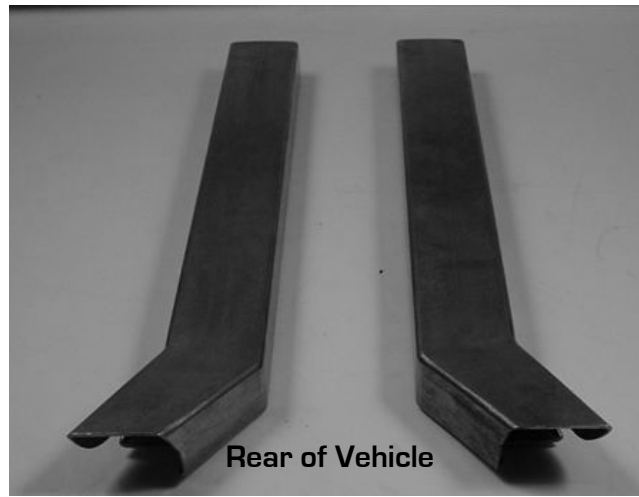

Figure 2
8. The subframe connectors are not symmetrical; they are labeled driver side and passenger side for your convenience. The angled portion of the subframe connector should be positioned toward the rear of the vehicle and point outward. (Figure 2)